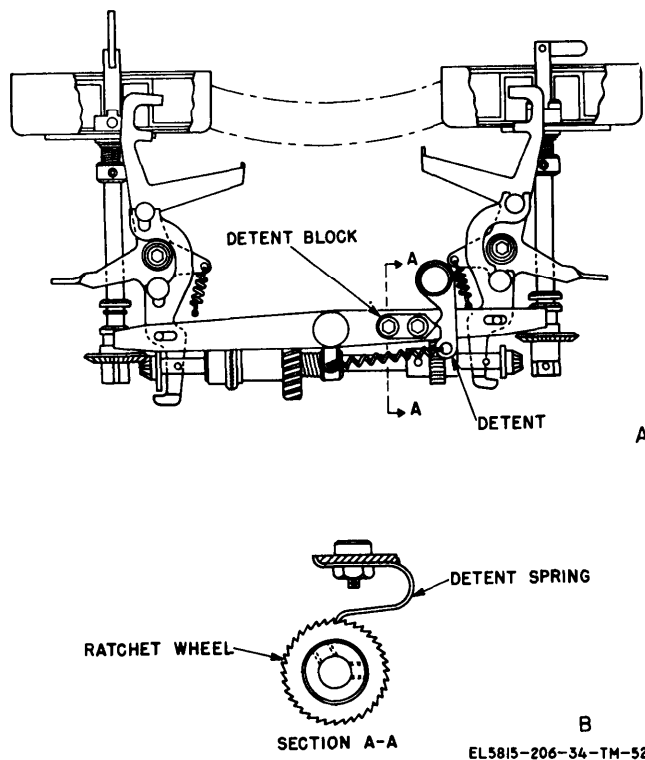

Figure 2-52. Ribbon feed mechanism (TT-4C/TG, TT-335/TG, TT-537/G and TT-698B/TG).
(3) On the TT-4C/TG, TT-335/TG, TT-537/G, TT-698B/TG the ribbon mechanism (fig. 2-52) is identical with that described in (1) and (2) above, except —